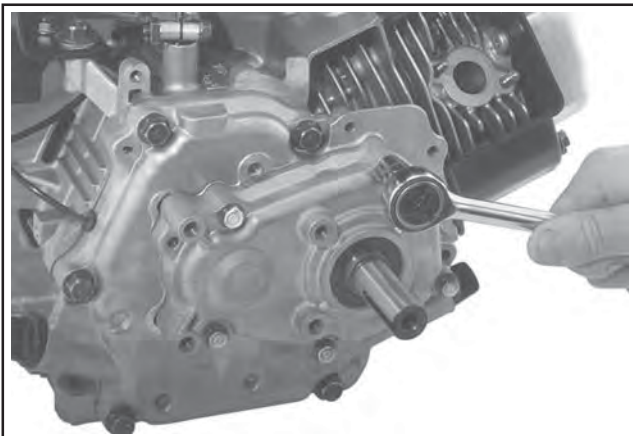

Figure 9-54. Removing Reduction Housing Screws on CS4, CS6.
2. Remove the mounting bolts securing the reduction system housing onto the crankcase. Place a flat pan or towel under the housing to catch any remaining oil. See Figures 9-54 and 9-55.